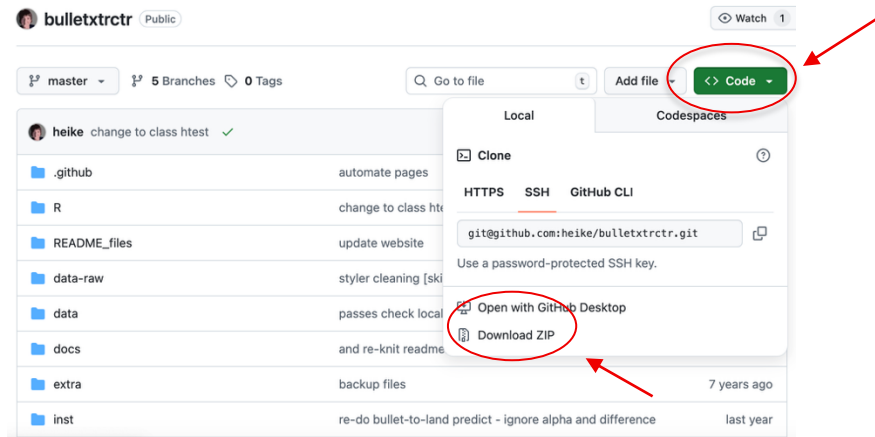

Figure 3. Click Code and then Download ZIP on the bulletxtctr GitHub page to download bulletxtctr.
- Click the green Code button and select Download Zip. (Figure 3)